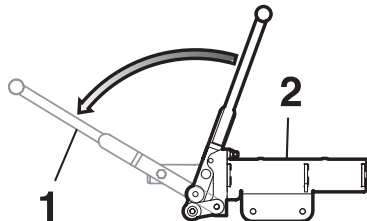

Fig. 24
- Pull the hand lever (1) on the master cylinder (2) fully outwards (over-press). (Fig. 24)